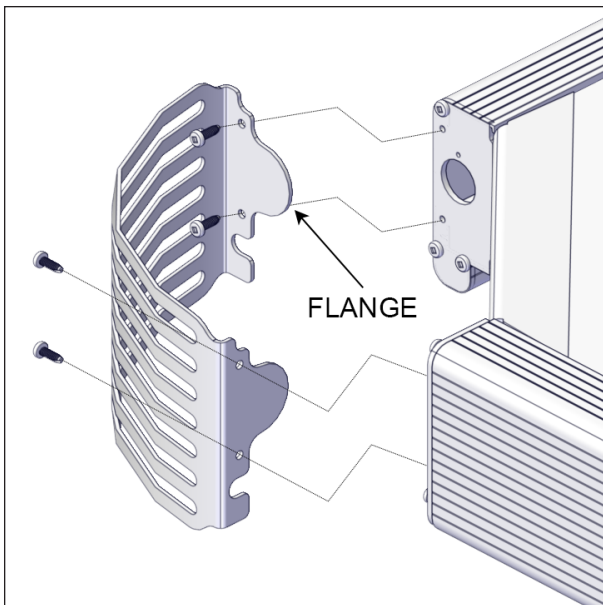

FIGURE 60: OUTSIDE CORNER INSTALLATION
4. Use a no. 2 6" long Robertson screwdriver to attach the outside corner (left and right) on the corner bracket support by using the no. 8 x 1/2" screws, see Figure 60.